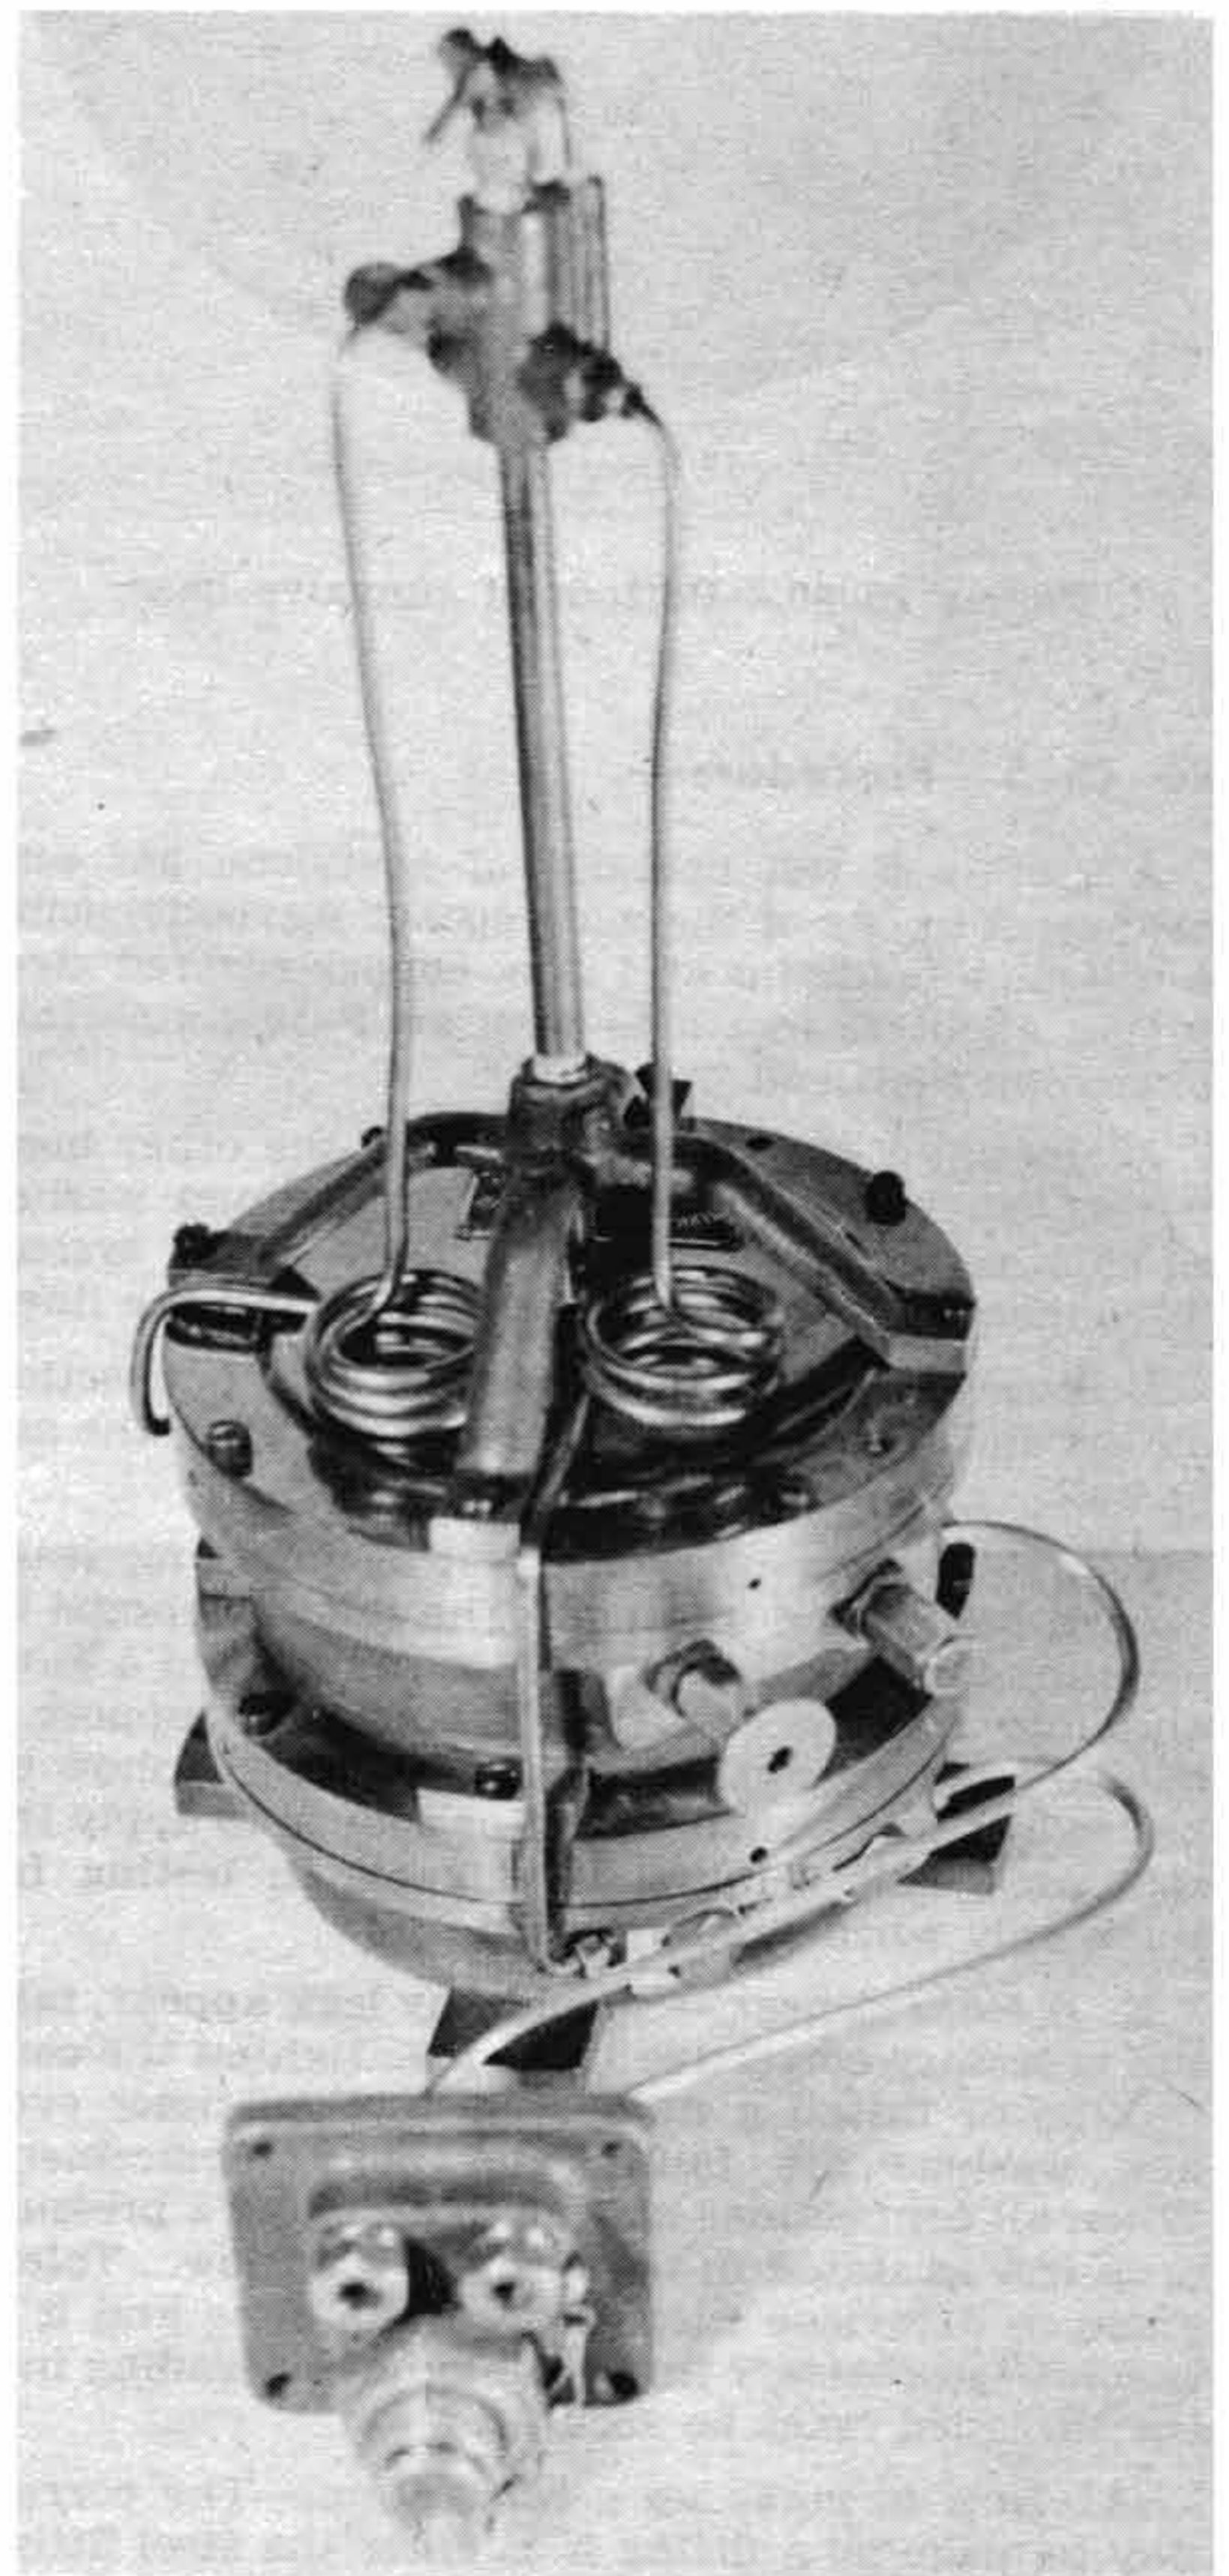

FIGURE 20-79.—Interior sunvalve tubing.
(2) Install a sunvalve by-pass valve (AGA part 332-A1). Put a little putty on the valve flange and be sure the large tapped (F-40) holes are uppermost.
(3) Remove the short tubing between the regulator and the flasher.
(4) Make up a set of interior piping using 4-mm. brass tombac tubing and F-60 connections. One piece of tubing connects the regulator to the right hand threaded hole (F-60) in the sunvalve cock. The other leads from the remaining threaded hole in the valve to the flasher unit. See figure 20-79 for this interior piping. For the exterior piping use 4-mm. copper-covered steel tubing, not that it is needed for pressure reasons but because it can stand more abuse in handling.
(5) Two pieces of tubing, with F-40A connections, lead from the sunvalve cock in a small radius curve toward the base of the lantern and then spread right and left respectively up in such a manner as to follow the diagonal bars of the stormpane section. They then come together again and curve out as necessary to lead fair into the sunvalve. No provisions are made in the bases of Service-type lanterns for installing sunvalve cocks. When required,